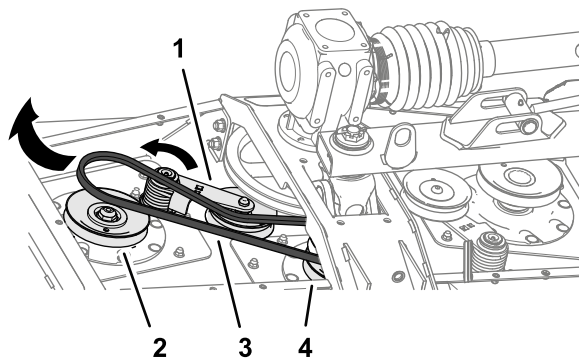

Figure 60
3. Use a breaker bar or similar tool to rotate the belt tensioner for the short belt counterclockwise and slip the belt off the tensioner pulley (Figure 60).